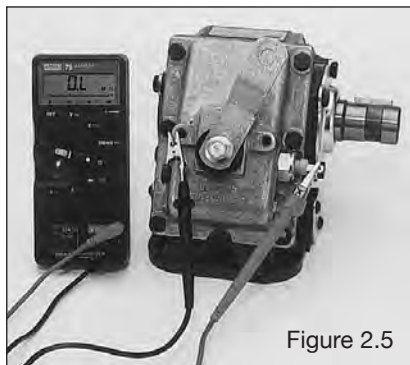

Figure 2.5
2. Connect the other lead to a bare metal portion of the PTO or shifter (Figure 2.5).
5. Shift PTO to the disengage position. The meter should return to normal (Figure 2.5).